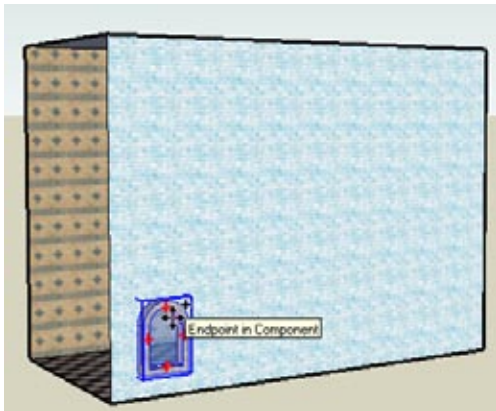

Figure 1-2
3. Move the cursor over the window, which becomes highlighted in a bounding box (Figure 1-2). Click anywhere on the window, but do not click on one of the red + signs, as these will switch you from Move to Rotate mode.